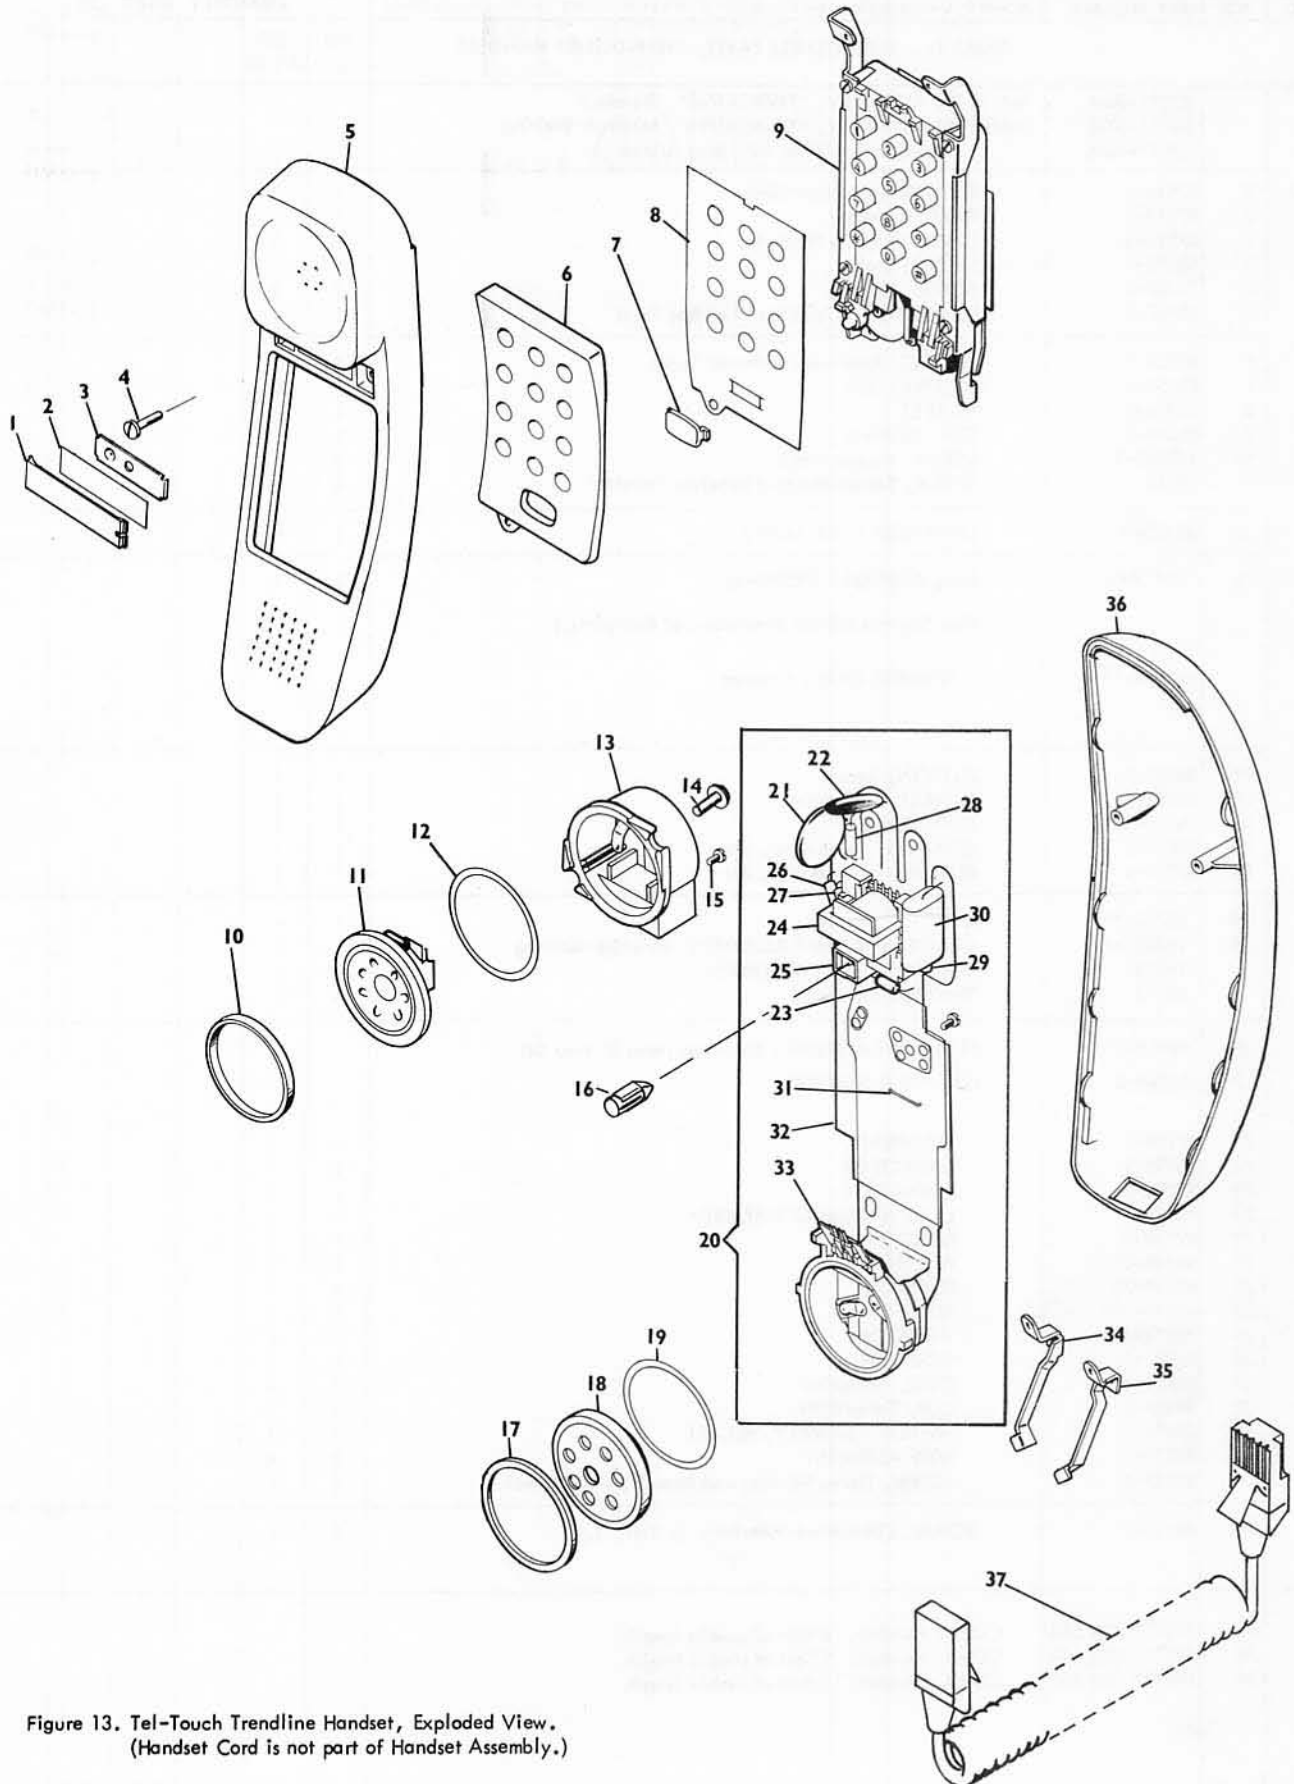

Figure 13. Tel-Touch Trendline Handset, Exploded View.
Rotary Dial (Figure 12). Remove three screws (35) and lift out Dial. Tel-Touch Dial (Figure 13). Dial removal is covered in (d) (2). Remove Background Card (8) with recall button (7) and the Light Guide (6).
#### (2) FLEXPRINT ASSEMBLY, Tel-Touch (Figure 13)